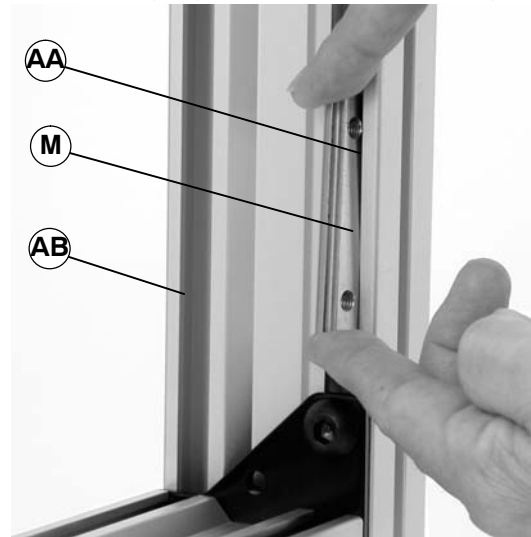

Figure 7
- a. Roll a 2 hole drop-in t-bar (M of Figure 7) into an inside t-slot (AA) of the vertical stand leg (AB).